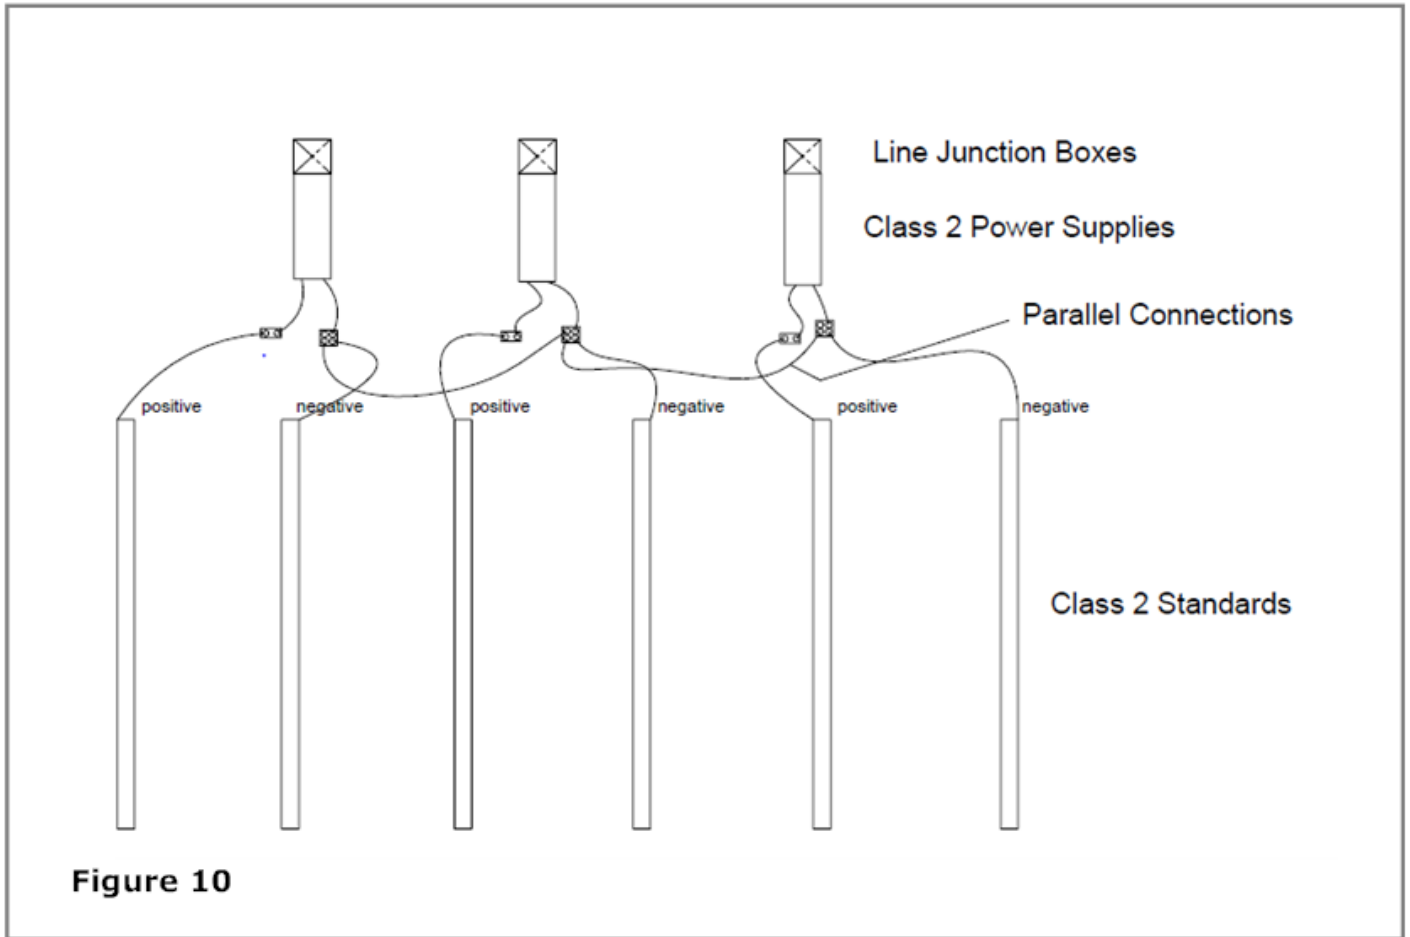

Figure 10
- After the 'U'-Channels are mounted, establish the installation sequence of the wired standards. For the shelving to function, standards must be installed in an alternating sequence; a positive standard (red wire) adjacent to a negative standard (black wire) adjacent to the next positive standard (red wire), etc. **See Figure 10 & 11.**
Prepare wiring path of all standards so that attached wiring can be fed to the location of the power supplies. **Power supply spacing to other heat producing components shall be minimum 4 inches spacing to sidewalls, and minimum 2 inches spacing to top of enclosure. See Figure 10 & 11.**
10. Make all wiring connections per wiring diagram. **See Figure 10 & 11.** Note that the negative (black wire) standards need to be interconnected to one another using the provided black wire.